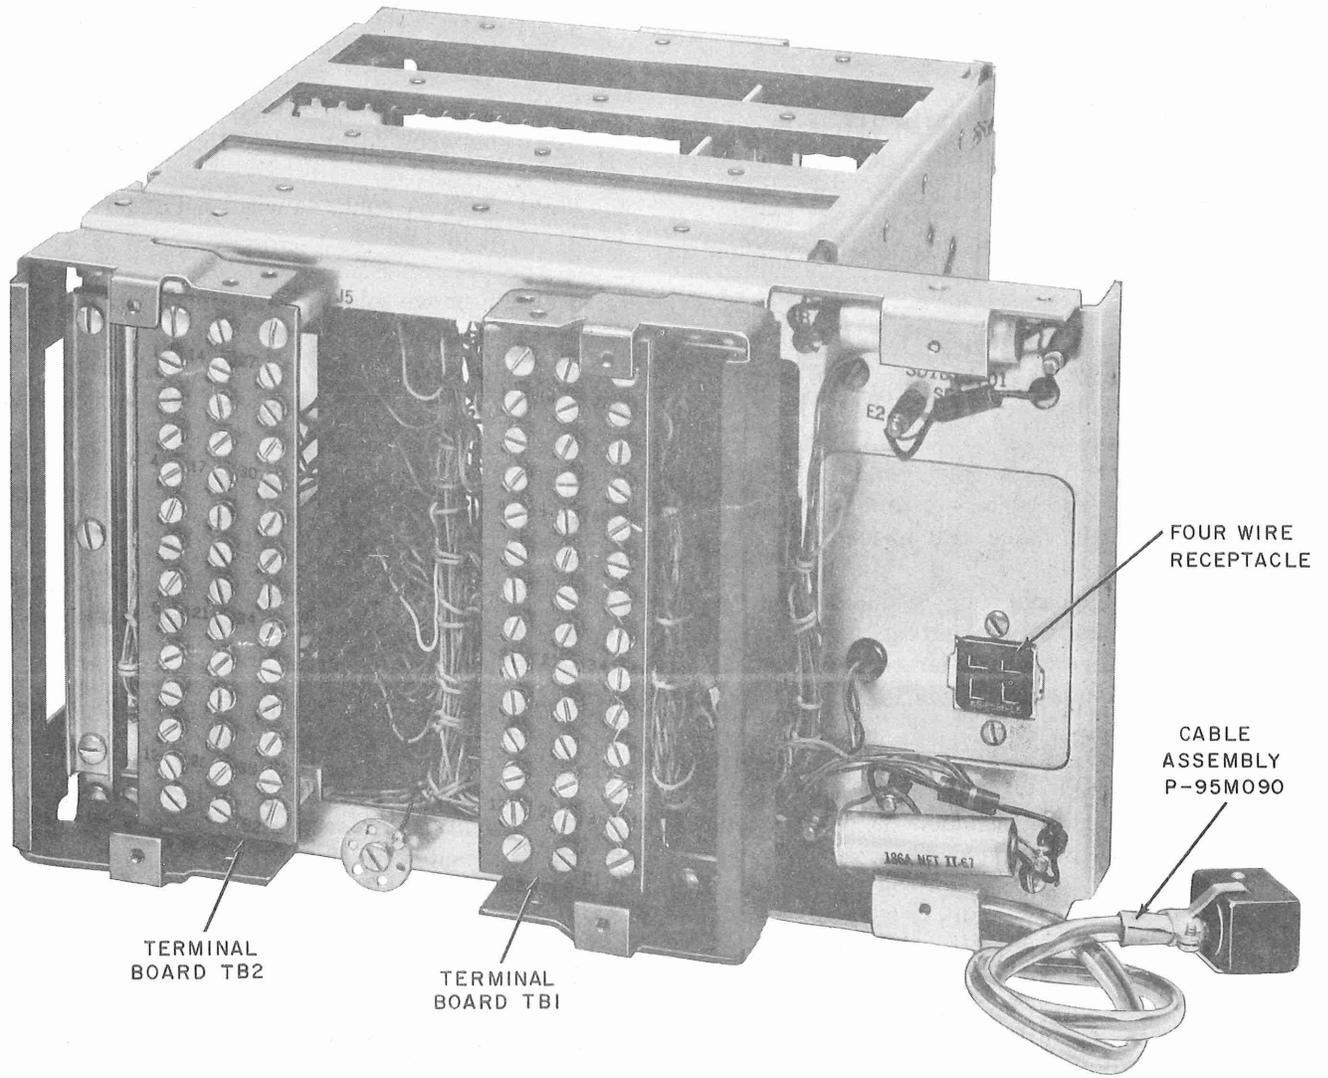

Fig. 1—Data Auxiliary Set 824B1—Rear View (Covers Removed)
2.04 Remove back cover of DAS 824B1 (Fig. 1) and lay cover and screws aside. Apply option T by strapping between terminals as shown in Table C.
2.05 Remove back cover of DAS 824B3 (Fig. 1). Apply option T by strapping terminals as shown in Table C.